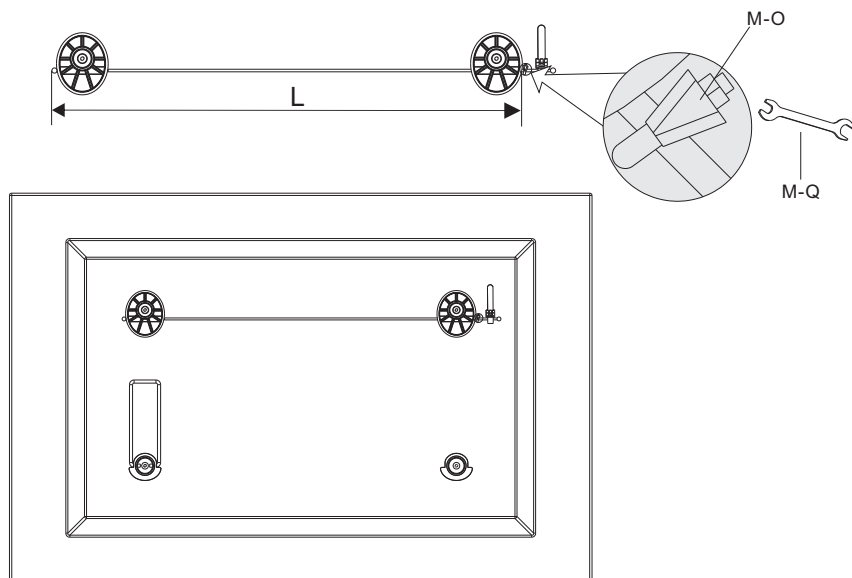

fig. 2.1
The letter a stands for the wood stud interval as shown in fig.1.1, the letter L stands for the useful length of wire rope as shown in fig.2.1
The letter X stands for the distance between wall plate as shown in fig.1.2, the letter L stands for the useful length of wire rope as shown in fig.2.1
- Place screen face side down. Place adapter bracket and supporting spacer on the back of screen, align to holes, as shown in fig.2.1.
The letter L stands for the useful length of wirerope as shown in fig.2.1